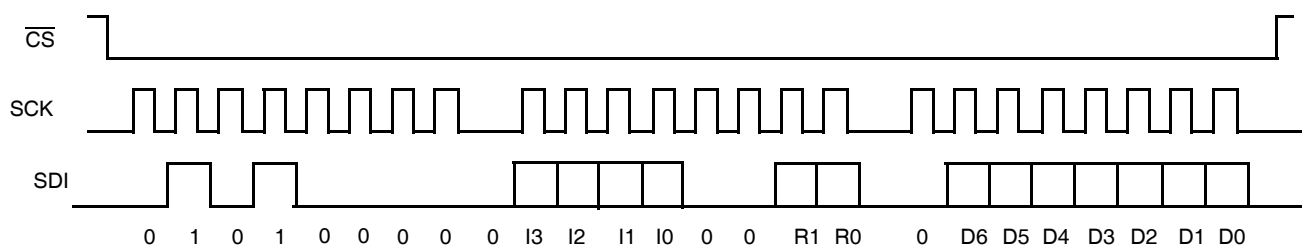

FIGURE 16. THREE BYTE WRITE SEQUENCE
A Write operation to the ISL22416 is a three-byte operation. It requires first, the $\overline{\text{CS}}$ transition from HIGH to LOW, then a valid Identification Byte, then a valid instruction byte followed by Data Byte is sent to SDI pin. The host terminates the write operation by pulling the $\overline{\text{CS}}$ pin from LOW to HIGH. For a write to address 0 (WR), the byte at address 2 (ACR<7>) determines if the Data Byte is to be written to volatile or both volatile and non-volatile registers. Refer to "Memory Description" and Figure 16.